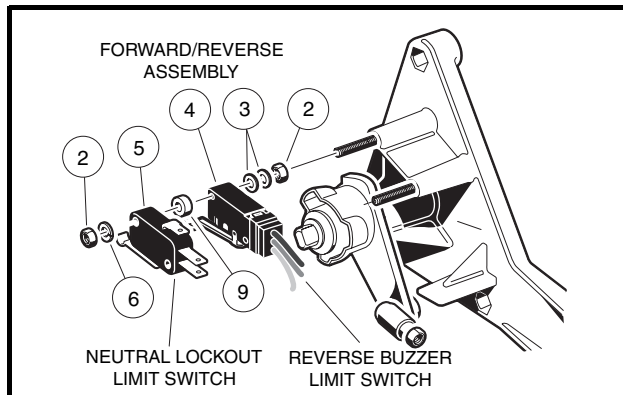

Figure 12-18 Neutral Lockout and Reverse Buzzer Limit Switches
2. Disconnect the wires from the neutral lockout limit switch (5) located on the back of the Forward/Reverse shifter assembly (Figure 12-18, Page 12-17).
3. Remove two nuts (2) and washers (6) from the neutral lockout limit switch (5) and slide the neutral lockout limit switch off of the screws.
1. Install the neutral lockout limit switch (5) with two washers (6) and two nuts (2) (**Figure 12-18, Page 12-17**). Tighten to 5 in-lb (0.6 N·m). Place the Forward/Reverse handle in REVERSE to make sure that both switches actuate. **See following CAUTION.**
2. Connect the black wire to common (COM) terminal, the green wire to the normally open (NO) terminal and the white wire to the normally closed (NC) terminal of the neutral lockout limit switch (**Figure 12-18, Page 12-17**).
2. Disconnect the wires from the reverse buzzer limit switch (4) located on the back of the Forward/Reverse assembly (**Figure 12-18, Page 12-17**).
3. Remove the nuts (2) and washers (6) from the neutral lockout limit switch (5) and slide the neutral lockout limit switch off of the screws. Do not disconnect the wires.
4. Remove the spacers (9) from the reverse buzzer limit switch (4) and slide the reverse buzzer limit switch off the screws.
1. Install the reverse buzzer limit switch (4), and then install two spacers (9) against the limit switch (**Figure 12-18, Page 12-17**).
2. Install the neutral lockout limit switch (5) with two washers (6) and two nuts (2). Tighten to 5 in-lb (0.6 N·m). **See following CAUTION.**
4. Connect the orange wire to the common (COM) terminal and the red/white wire to the normally open (NO) terminal of the reverse buzzer limit switch (4) (**Figure 12-18, Page 12-17**).